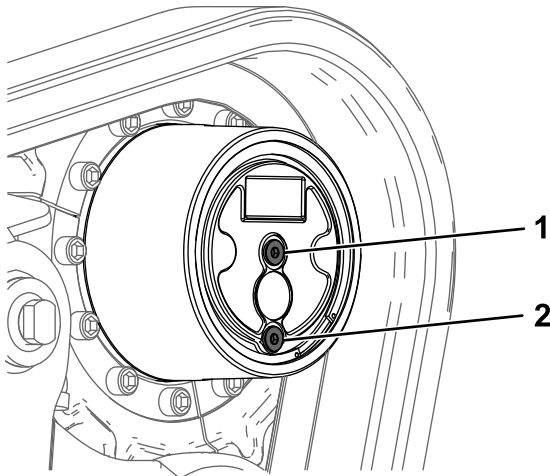

Figure 62
2. Park the machine on a level surface so that the drain plug is in the 6 o'clock position (Figure 62), engage the parking brake, and lower the loader arms.
5. Remove the check plug and the drain plug and allow the gear lubricant to drain (Figure 62).
6. Install the drain plug (Figure 62).